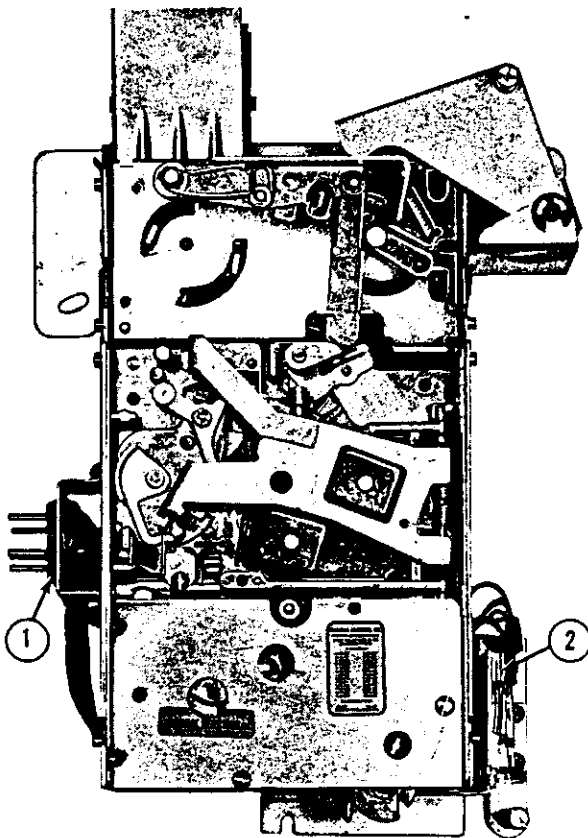

Fig. 23. SLUG REJECTOR
a. The slug rejector assembly (Fig. 23) is a product of National Rejectors, Inc. as described on page 4. The Wurlitzer electrical components consisting of the four unit coin switch (Item 2) and the plug and cable assembly (Item 1) provide the first electrical function of the electric selector system.